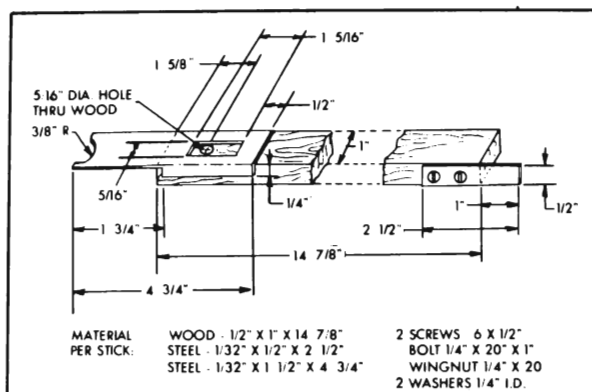

Figure 7-26—Spacer Stick
**NOTE:** Spacer sticks may be made as shown in Figure 7-26.